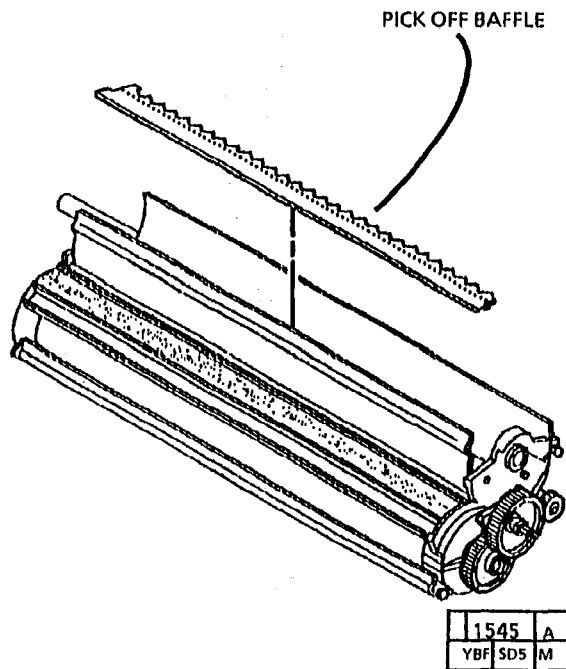

Figure 1. (2515) Remove the Pick Off Baffle
4. (2515: Figure 1): Remove the pickoff baffle.